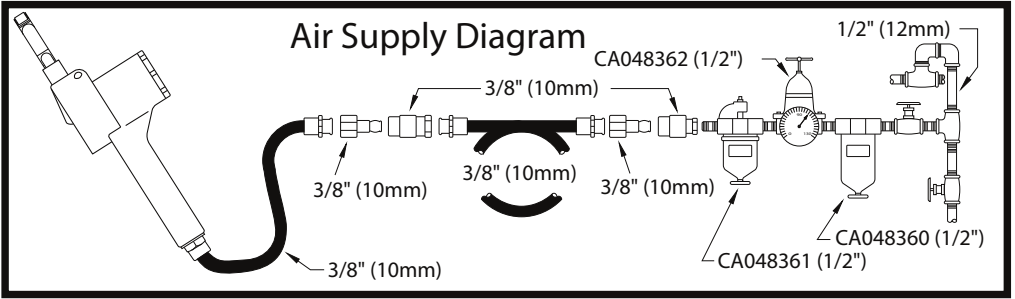

Fig. 01
- Connect device as shown in Fig. 01.
- To start the machine, pull the trigger (A). Machine speed is increase by increasing pressure on the trigger. Release the trigger to stop.